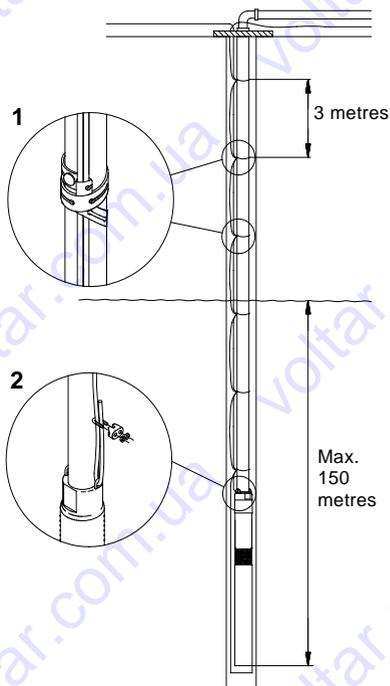

Fig. 11
Figure 11 shows a pump installation with indication of:
See fig. 11.
**Maximum** installation depth below the static water level: 150 metres. See fig. 11.
It is recommended to secure the pump by an unloaded straining wire. See fig. 11, pos. 2.